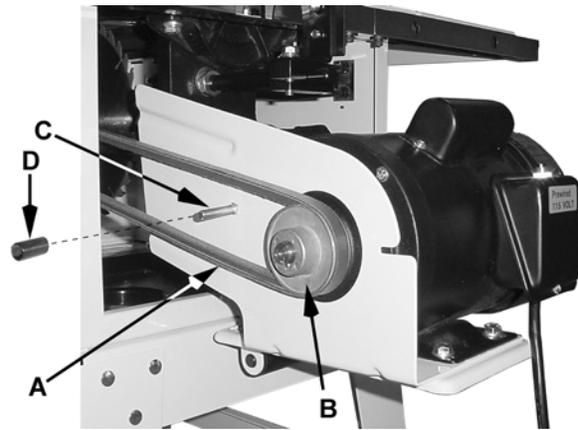

Figure 24
2. Position the v-belt (A, Fig. 24) on the arbor pulley, lift up on the *motor assembly*, place the v-belt on the *motor pulley* (B, Fig. 24), and carefully lower the motor.
3. Place the M8x40 *carriage bolt* (C, Fig. 24) through the hole in the belt guard bracket. Place *spacer* (D, Fig. 24) onto the carriage bolt.